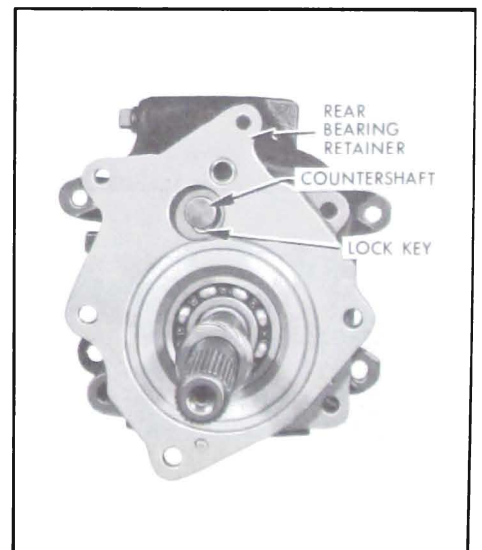

Figure 4-105—Rotating Rear Bearing Retainer
35. With rear bearing retainer rotated as shown in Figure 4-105, insert countershaft through exposed shaft opening in rear of case, making certain the shaft passes through both thrust washers before it enters countergear.